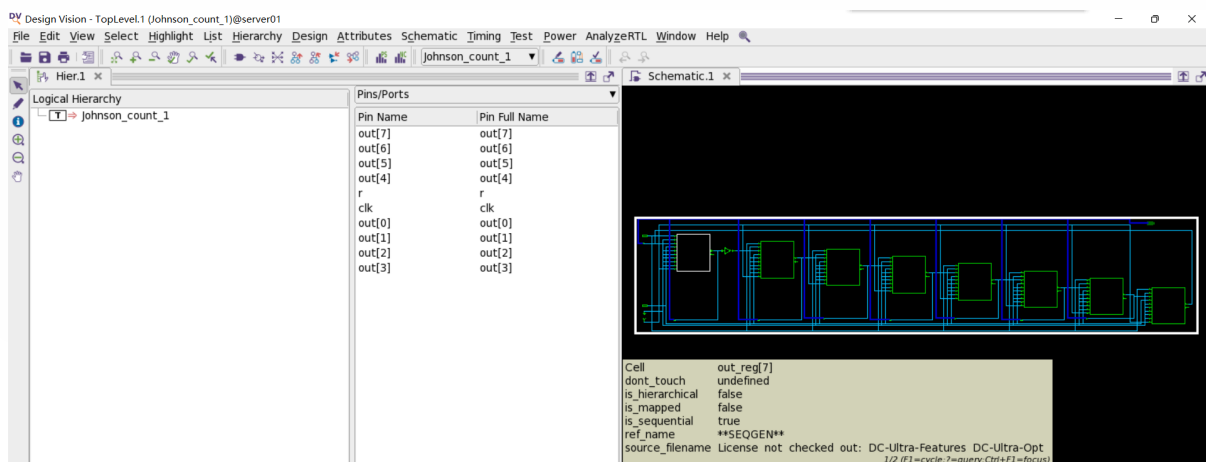

Figure 26: Design View From DC.
- After all steps mentioned above are completed, right-click on the `Johnson_count_1` located under the Logical Hierarchy tab. Then select Schematic View, *double-click the Johnson_count_1 cell to expand the hierarchy, switch the "Cells (Hierarchical)" view to the "Pins/Ports" view*, and a Schematic seen in Figure 26 should appear.